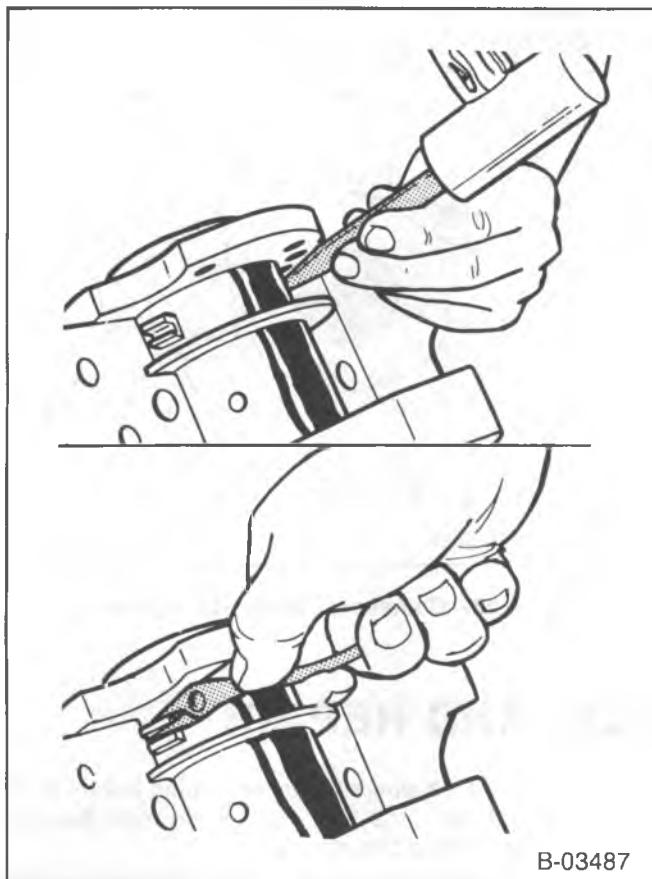

Figure 20—Removing the Upper Seal Half
3. Upper seal half (132).
- Tap on the upper seal half, using a small drift and hammer (figure 20).
- Remove the upper seal half, using pliers (figure 20).